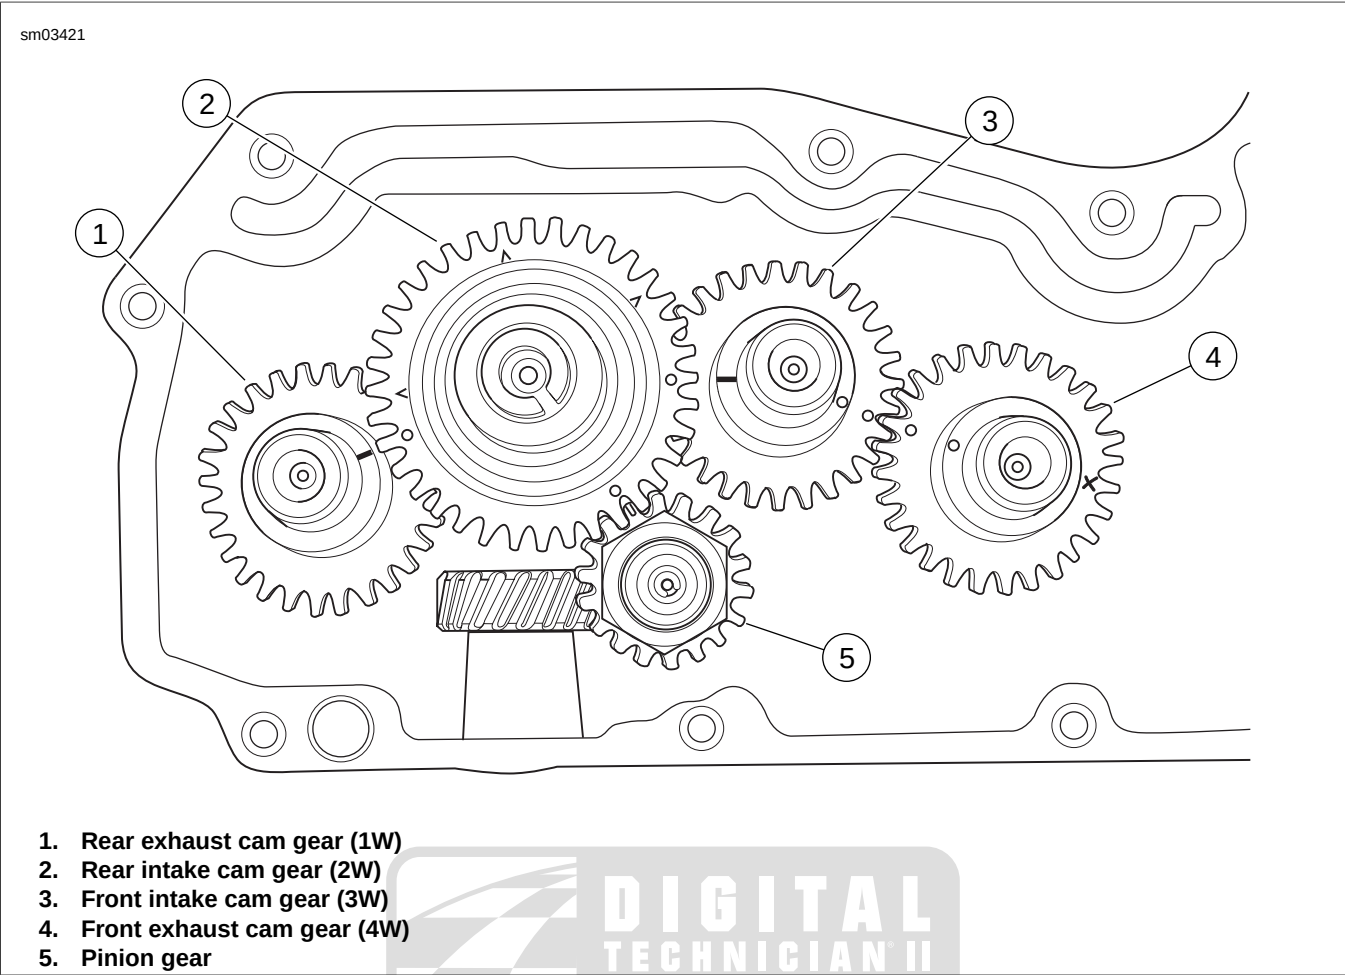

Figure 3-95. Cam, Pinion Gear and Timing Mark Indexing (Cam #2 "V" marks are not used for timing)
See Figure 3-95. Because of the larger diameter additional gear (which meshes with the pinion gear) on the outboard end of the rear intake (2) cam gear, the rear exhaust (1) and front intake (3) cam gears must both be installed before the rear intake cam gear is installed.
5. See Figure 3-95. Rotate crankshaft until timing mark on pinion gear (5) points exactly at centerline of rear intake cam bushing.
See Figure 3-95. "V" marks on rear intake cam (2) are not used for timing of Sportster model engines.
8. Install rear intake cam (2). As you install this cam, rotate it so that the three timing marks (dots) line up exactly with timing marks on the pinion gear, rear exhaust cam and front intake cam.
9. Install front exhaust cam (4). As you install this cam, rotate it so that its timing mark (a dot) lines up with timing mark (dot) of front intake cam.
Make sure all timing marks on cams just installed line up correctly, as shown in Figure 3-95. If necessary, remove a cam, rotate it slightly, and re-install it. If timing marks are off even one tooth, engine will not run correctly.